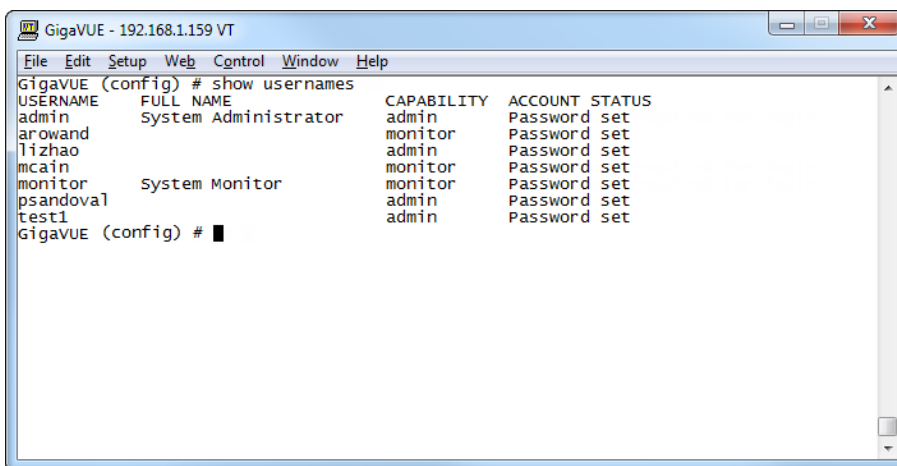

Figure 25 Reviewing the User List
2. Once you have configured these basic user accounts, use the `show usernames` command to review your settings. Figure 25 Reviewing the User List shows some sample `show usernames` output after several users have been added.